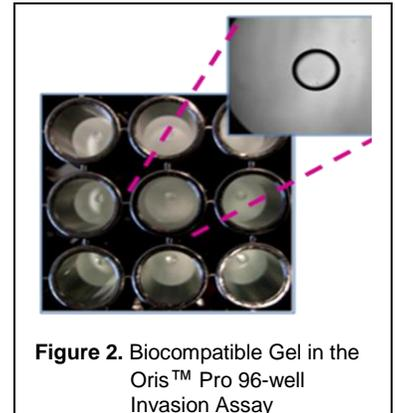

Figure 2. Biocompatible Gel in the Oris™ Pro 96-well Invasion Assay
3. Incubate the seeded plate(s) containing the Oris™ Pro Biocompatible Gel (see Figure 2) in a humidified chamber (37°C, 5% CO₂) for 30 minutes to 2 hours (cell line dependent) to permit cell attachment.